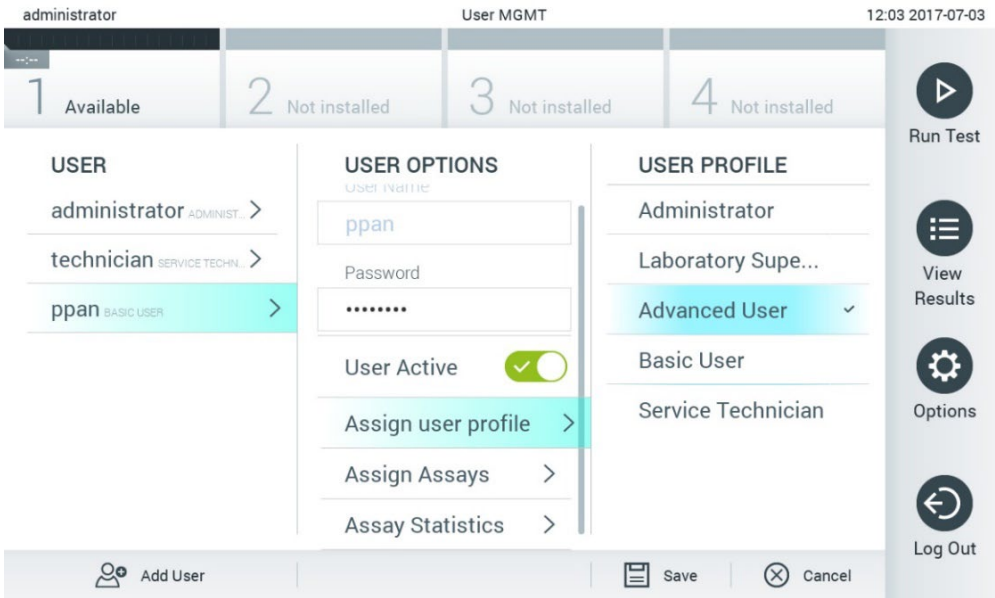

Figure 61. Assigning user profiles to users.
- **Assign User Profile:** Allows assigning a different user profile for that user (e.g., Administrator, Laboratory Supervisor, Advanced User, Basic User). Select the appropriate user profile from the list on the right of the content area (Figure 61).